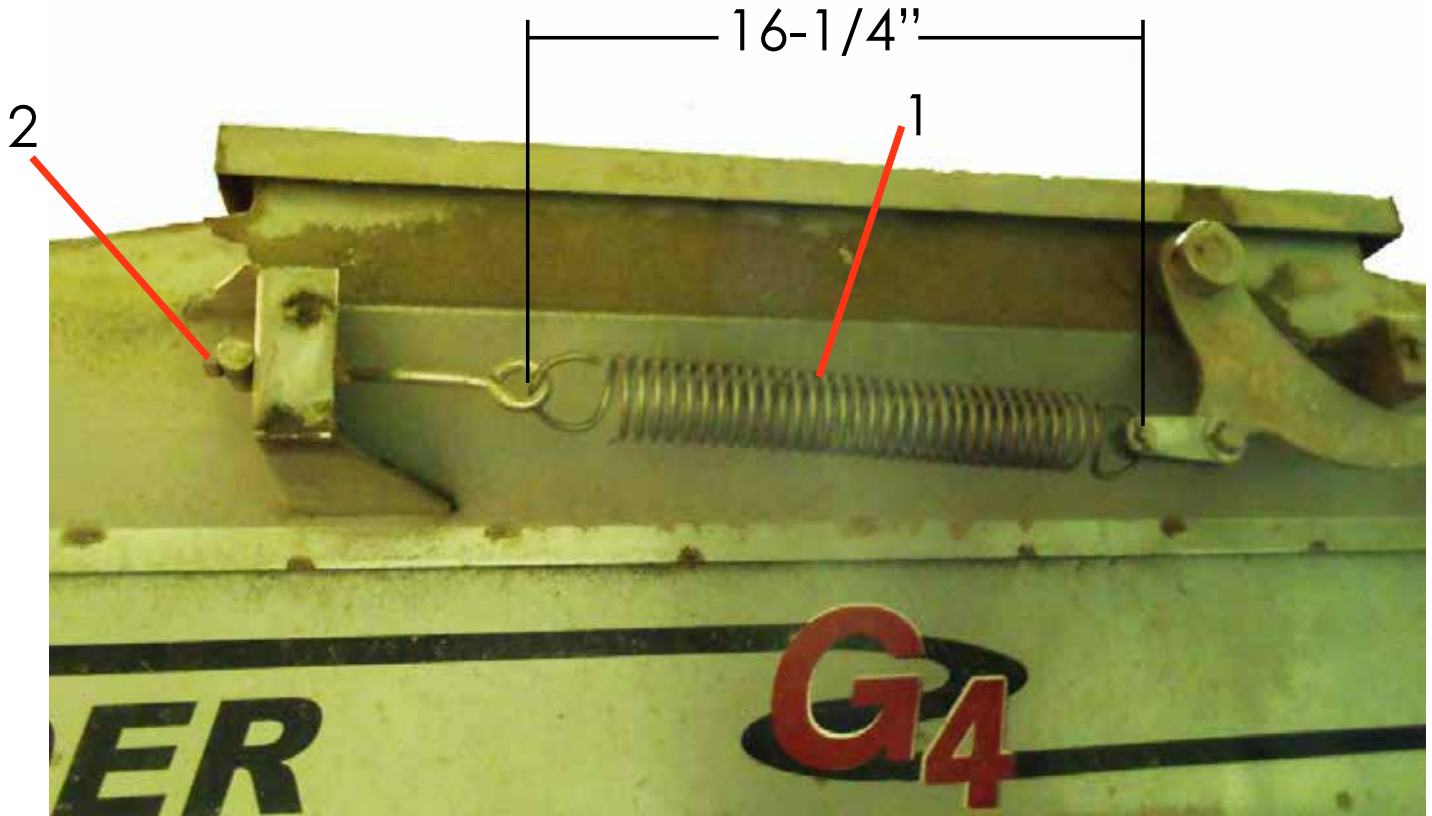

Figure 14
14. Figure 14 - Remove block and lower lid. Tension spring (1) to 16-1/4" as shown by adjusting eyebolt hardware. When spring is properly adjusted, tighten the eyebolt jam nut (3/8" Nut) (2).